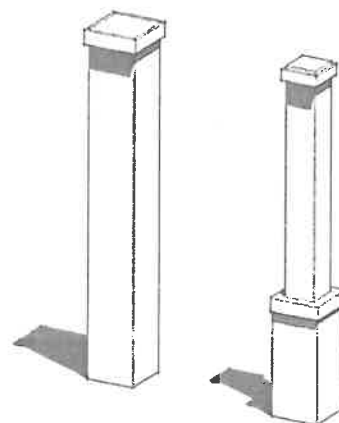

*Figure 10:
- iii) 220 x 220mm square brick columns on 340 x 340mm square brick bases, plastered and painted as illustrated in Figure 10 above.